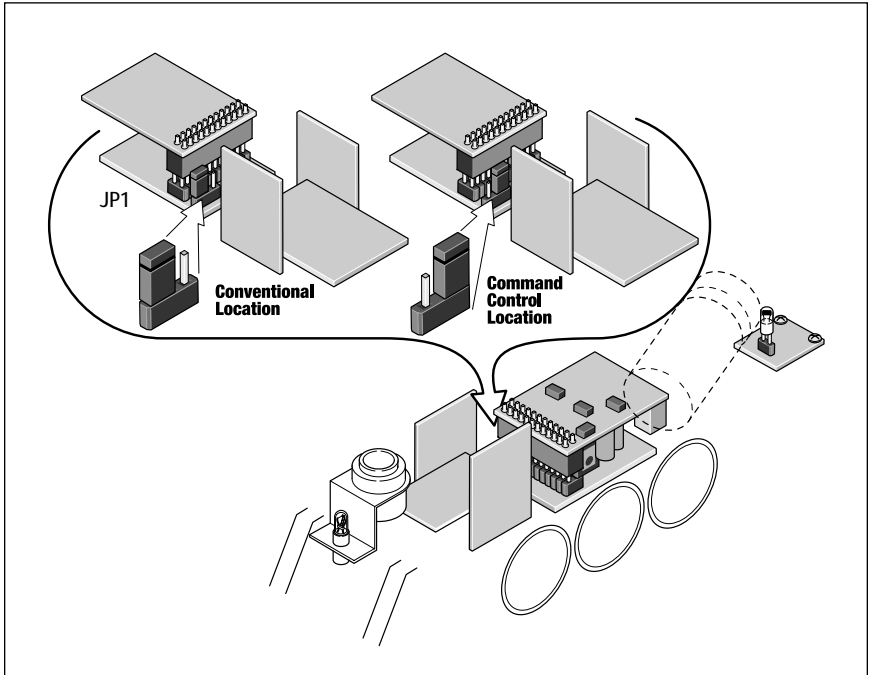

Figure 2. Changing the jumper location
4. As illustrated in Figure 2, move the jumper marked JP1 to the next position, leaving the opposite pin open.